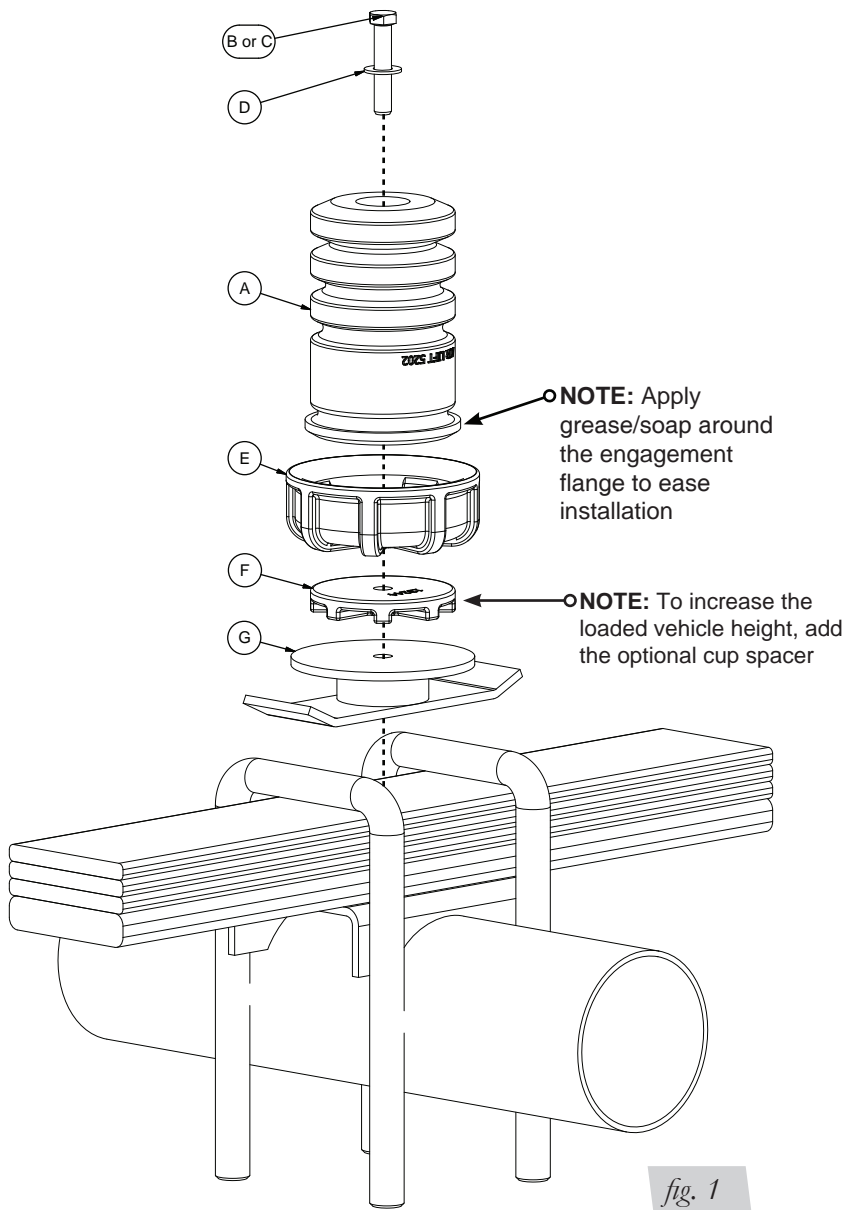

fig. 1
3. Assemble the spring cup to the bracket using 3/8 bolt and flat washer (fig 1). Torque the hardware to 31ft/lbs.
4. Attach the bracket/spring cup assembly to the vehicle under the stock u-bolts that were previously loosened. Center the bracket/spring cup assembly above the axle (fig 1). Raise the axle and torque the u-bolts to the OEM specifications.
You can adjust the loaded height of the vehicle by adding the optional cup spacer between the cup and the bracket. It will be necessary to use the longer hardware provided to install the cup spacer (see fig 1 note).